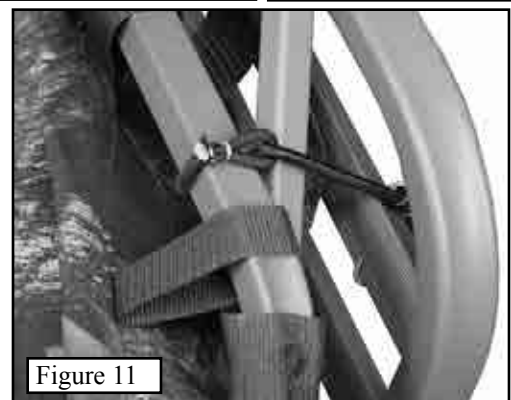
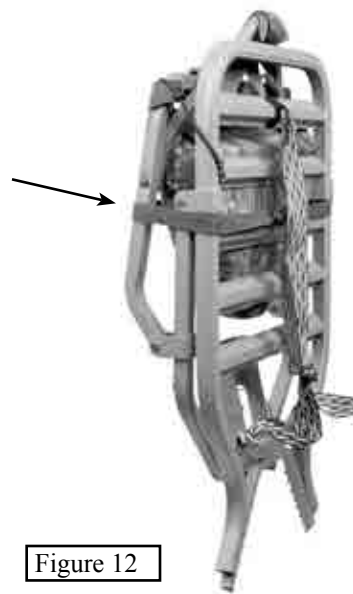

Figure 11
Figure 12
Step 3. When packing your stand, reverse **Steps 1 and 2**. Secure the tethered knob back on the stud. Use the small bungee attached to the seat frame to secure it to the platform (See **Figure 11**). Wrap the supplied green tourniquet buckle strap around the stand and tighten as shown in **Figure 12**.